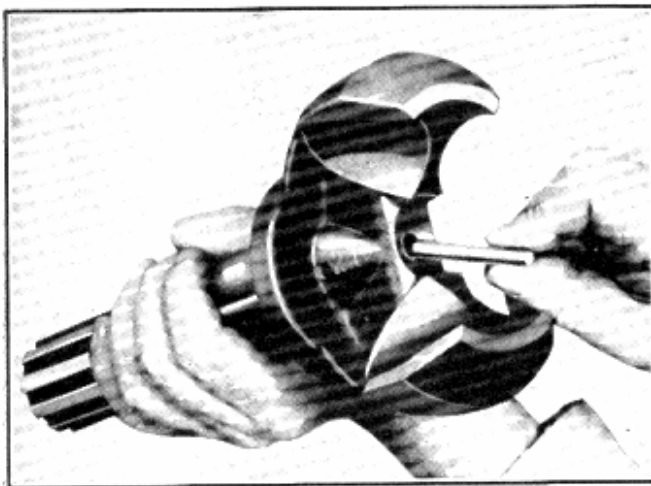

Fig. 25—Installing Center Ball Pin
3. Bounce the wheel end of the shaft on a block of wood to cause the retainer pin to move into the drilled passage in the wheel end of the shaft. See Fig. 25.
1. Drop the centre ball pin into the drilled passage in the wheel half of the shaft, Fig. 25.